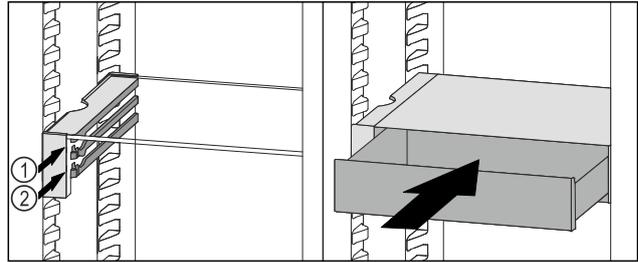

Fig. 129
- ▶ Place the VarioSafe drawer behind the stoppers on desired rib *Fig. 129 (1)* or *Fig. 129 (2)*.